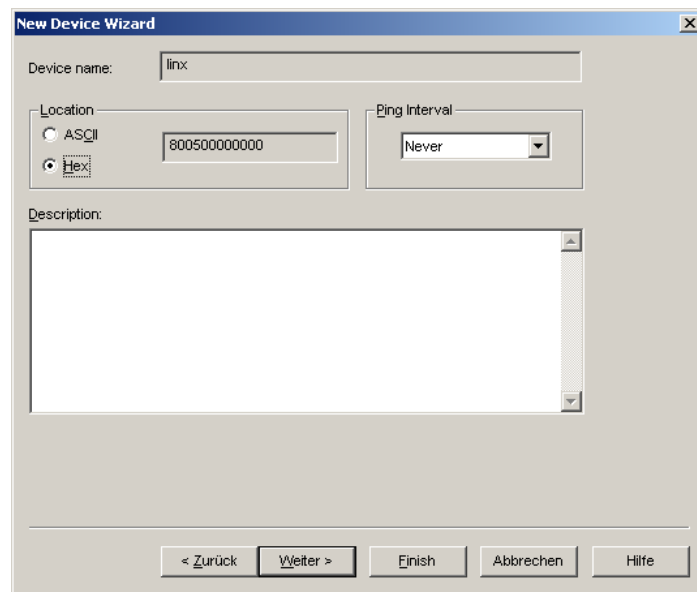

Figure 82: Leave defaults for Location.
5. The following dialog shown in Figure 82 appears, click **Next**.